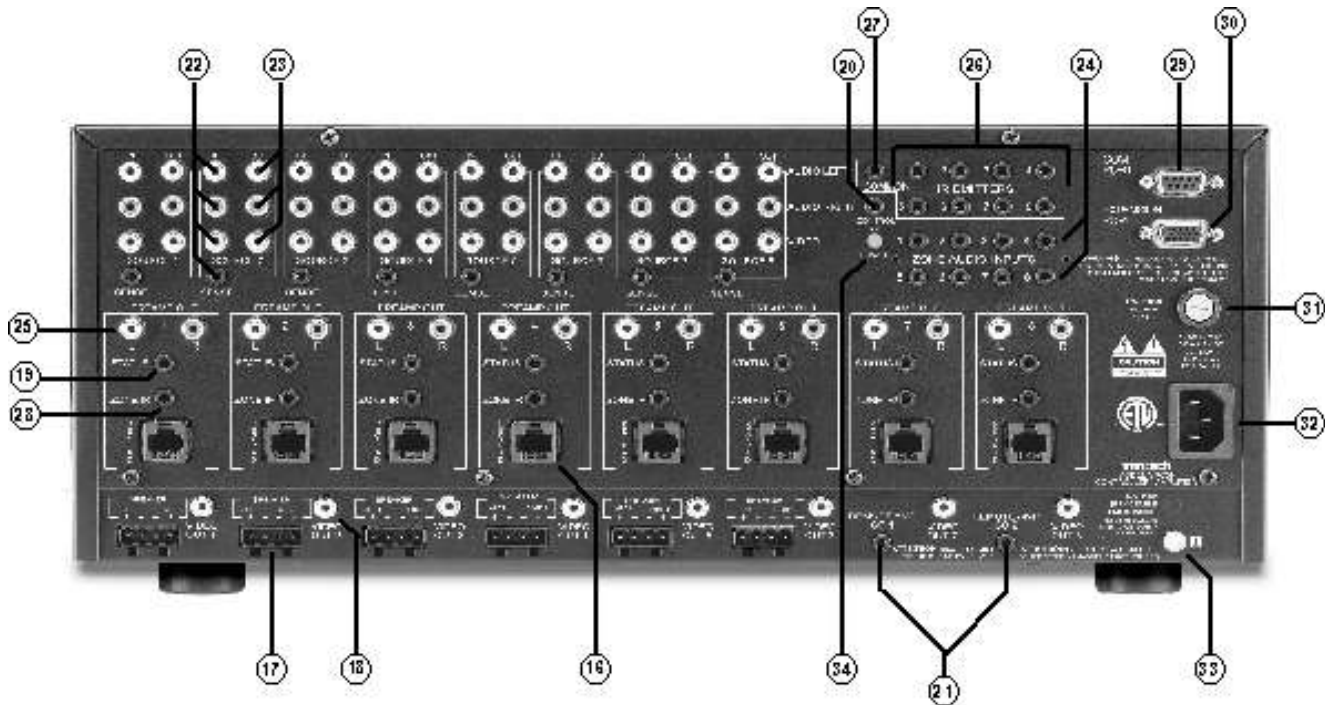

Figure 3 – The Model MX88 Controller/Amplifier – Rear Panel Connections and Functions
- f) All 8 IR emitters to IR Emitter Ports 1 thru 8 (Figure 3, item 26)
- b. When making connections to the MX88 Controller be sure the power cord is unplugged. Proceed as follows, referring to **Figure 3** and **Figure 6 or 7** for a typical MX88 system layout and interconnections.
Using good quality RCA-type patch cables connect the LEFT and RIGHT OUTPUT jacks of the source component (DVD, CD, Satellite receiver, etc.) to the appropriate source AUDIO LEFT and AUDIO RIGHT INPUT jacks on the MX88 - **Figure 3 item 22**. Do this for each source component.
Using good quality RCA-type patch cables connect the source AUDIO LEFT and AUDIO RIGHT OUTPUT Jacks of the 'Primary Controller' - **Figure 3 item 23**, to the corresponding source AUDIO LEFT and AUDIO RIGHT INPUT jacks on the 'Secondary Controller' - **Figure 3 item 22**.
Using good quality RCA-type video patch cables connect the VIDEO OUTPUT jacks of the source component to the VIDEO INPUT jacks on the MX88 - **Figure 3 item 22**. Do this for each source Component.
Using good quality RCA-type patch cables connect the source VIDEO OUTPUT jacks of the 'Primary controller' [**Figure 3 item 23**] to the corresponding source VIDEO INPUT jacks on the Secondary Controller - **Figure 3 item 22**.
Use a "3.5mm stereo mini jack to stereo RCA plug adapter" to connect Zone Specific audio sources (i.e. an audio source located in a zone) to the appropriate Zone Audio Input - **Figure 3 item 24**. The 3.5mm stereo jack is wired as follows: Tip = Right Audio Input; Ring = Left Audio Input; Sleeve = GND. When enabled, the Zone Audio Input will override the Source 1 Input connected at the Audio Left/Right RCA Input terminals - **Figure 3 item 22**. The Zone Input feature is audio-only regardless of the model version of MX88.
Plug the supplied 283D IR emitters into the appropriate IR Emitter jacks - **Figure 3-(26)**. Take care to match the source audio and video connection number on the MX88 to the IR Emitter jack number. This will ensure that the IR control signal will be routed to the correct source component. Find the IR sensor window on the source component and attach the emitter to the components sensor window after removing the protective paper cover on the flat side of the emitter head. A Common IR jack is also provided for connection to other auxiliary devices that are not source specific - **Figure 3 item 27**.
Connect the emitters to the Primary Controller's IR Emitter jacks - **Figure 3 item 26** as noted above.